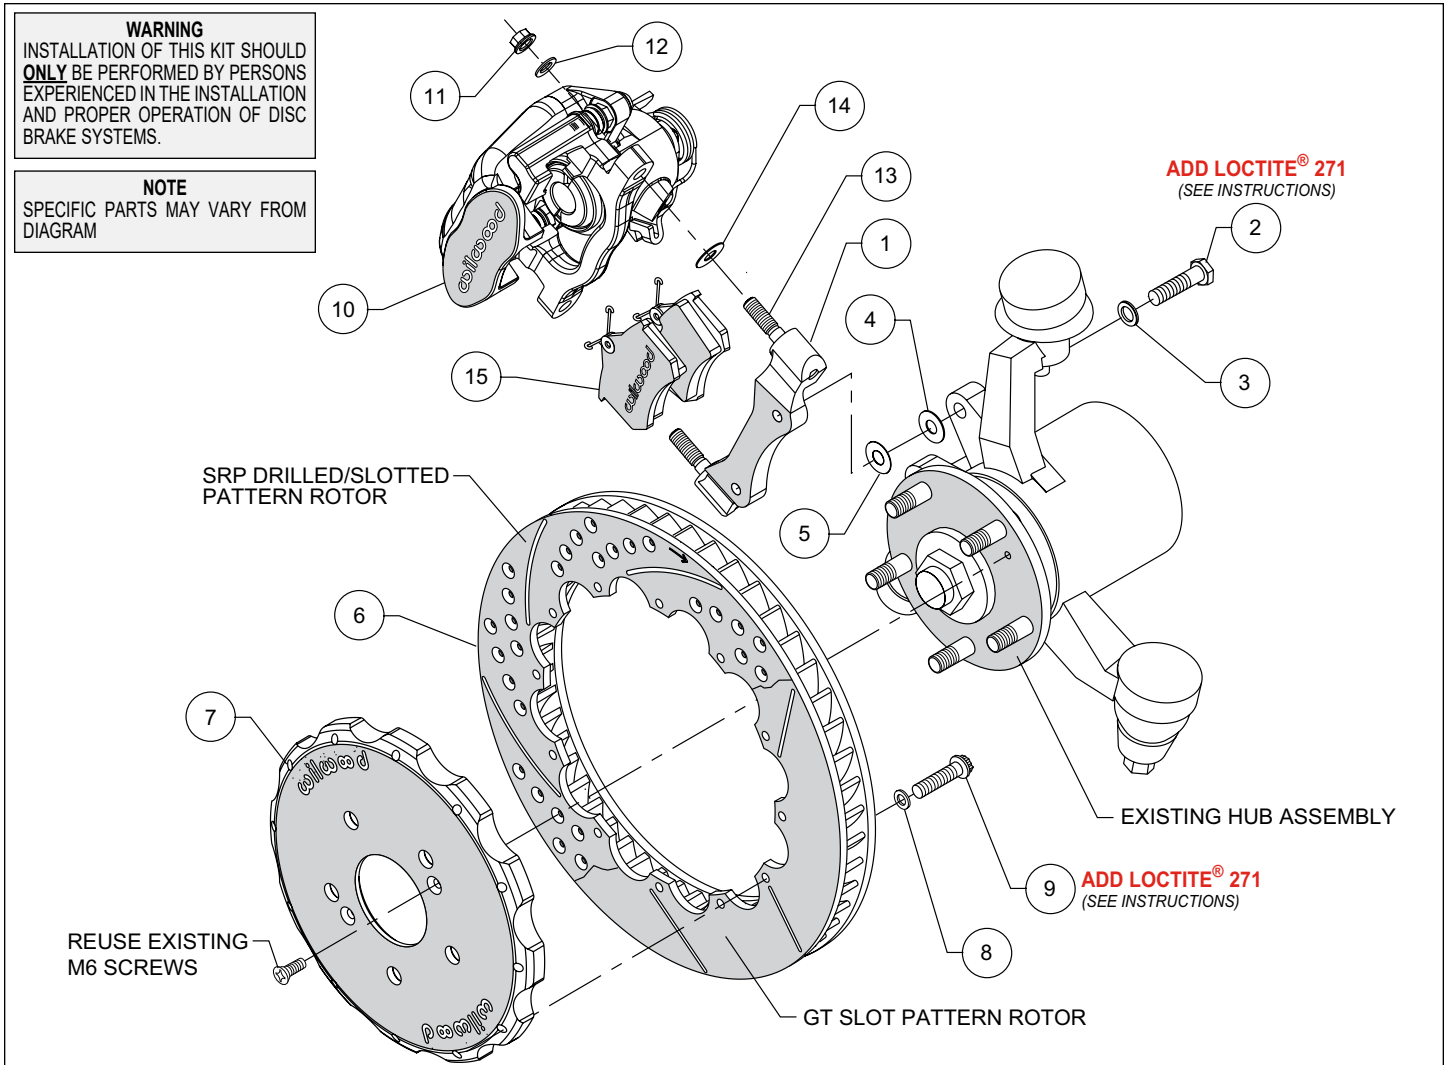

Figure 1. Typical Installation Configuration
•The caliper mounting bracket (1) should be installed first with clean, dry threads on the mounting bolts. Install the bracket (1) on the outboard side of the hub assembly by sliding bolt (2) from the inboard side of the hub assembly through washer (3) through the existing OEM caliper mounting holes and thread into caliper mounting bracket (1) (see figure 1). Place one shim washer (4) and one shim washer (5) between the hub assembly and the caliper mounting bracket (1). The mounting bracket (1) must tighten squarely against the outboard side of the hub assembly face. Inspect for interference from casting irregularities, machining ridges, burrs, etc. Use one shim washer (4) and one shim (5) between the mounting bracket (1) and the hub assembly during initial trial fitting.